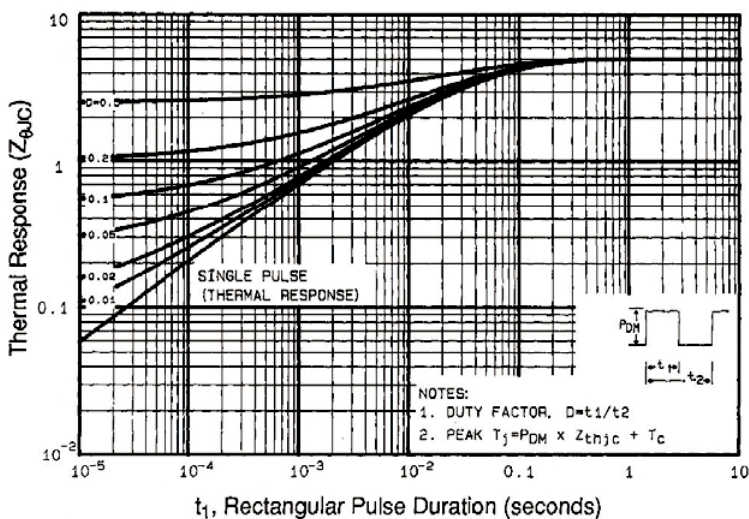

Fig. 11 - Maximum Effective Transient Thermal Impedance, Junction-to-Case
- Repetitive rating; pulse width limited by maximum junction temperature (see fig. 11).
a. Repetitive rating; pulse width limited by maximum junction temperature (see fig. 11).